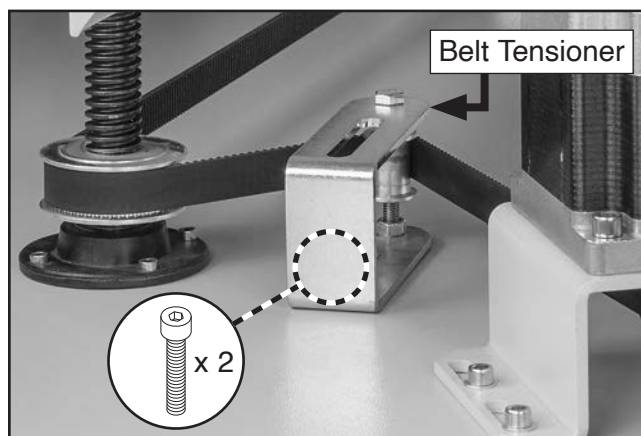

Figure 91. Example of Z-axis belt tensioner components.
16. Push belt tensioner towards belt, and then secure (2) cap screws (see **Figure 91**).